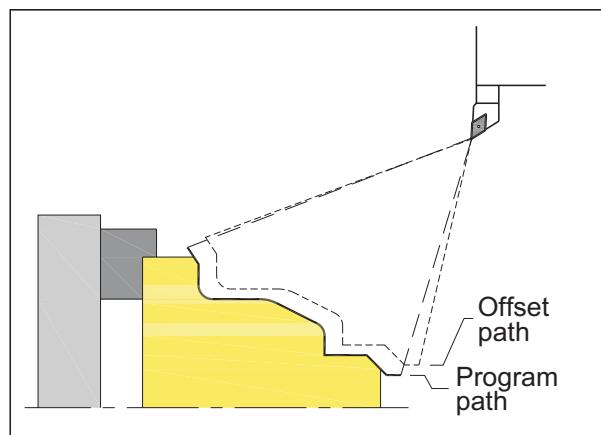

Figure 14-14
*Figure 14-14* illustrates the principle of tool wear offset, although the scale is exaggerated for emphasis.